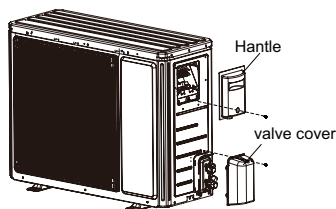

Fig.21
- (1) Remove the screw fixing the junction box cover of outdoor unit and then remove the cover.(As show in Fig.21)